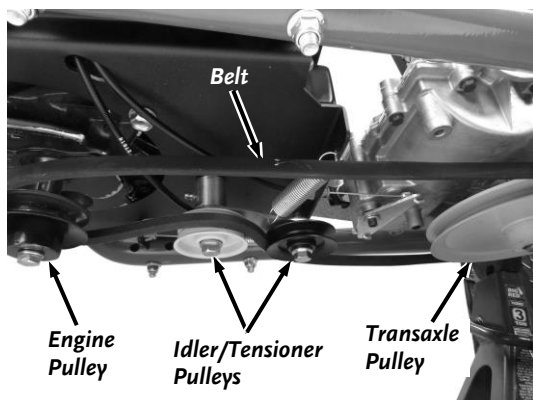

Figure 41
6. Remove the Belt from the Engine, Idler/Tensioner and Transaxle Pulleys (**Figure 41**).